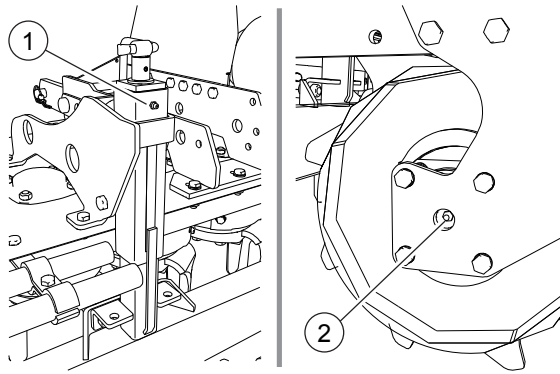

FIG. 30
- Grease gun on screw jack (1, “Fig. 30”).
- Roller support grease gun (2).